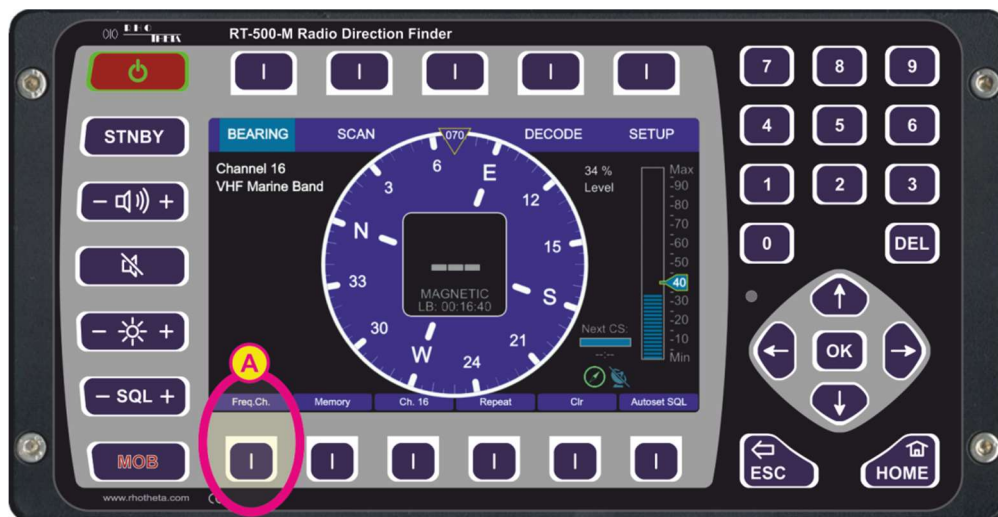

Figure 4. Start page (bearing page)
6. As a final result, the bearing page is loaded (s. Figure 4). This is the first page that is displayed when the system is started for the first time.
- Push the hotkey “Freq.Ch.” (s. field “A”, Figure 4).